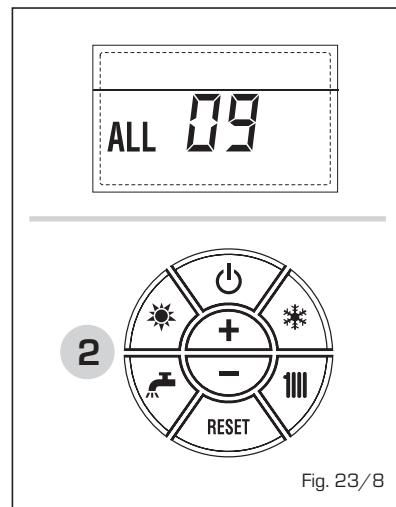

Fig. 23/8
- **AUXILIARY SENSOR ANOMALY ALARM 10** (fig. 23/9)
**BOILER WITH ACCUMULATION:** anomaly of the D.H.W. sensor (SB). When the D.H.W. sensor is open or short circuited, the display will show anomaly ALL 10. The boiler will function but will not modulate power for the D.H.W.
**BOILER ONLY FOR HEATING:** antifreeze sensor anomaly (SA) for boilers which foresee the use of antifreeze sensors.